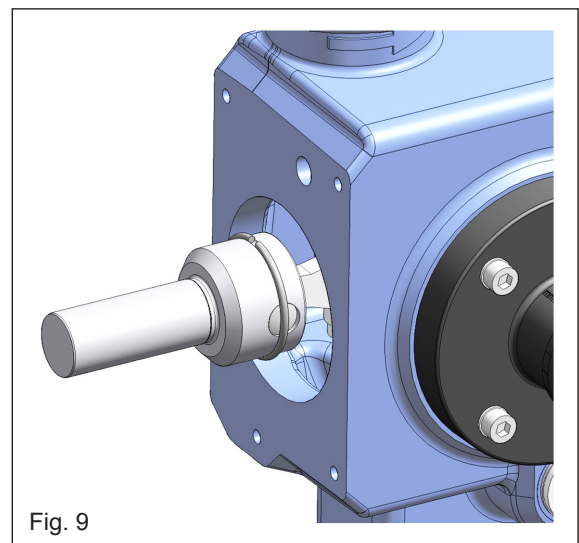

Fig. 9
3. Then push snap ring (555) into groove of plunger (502) (see figure 9).